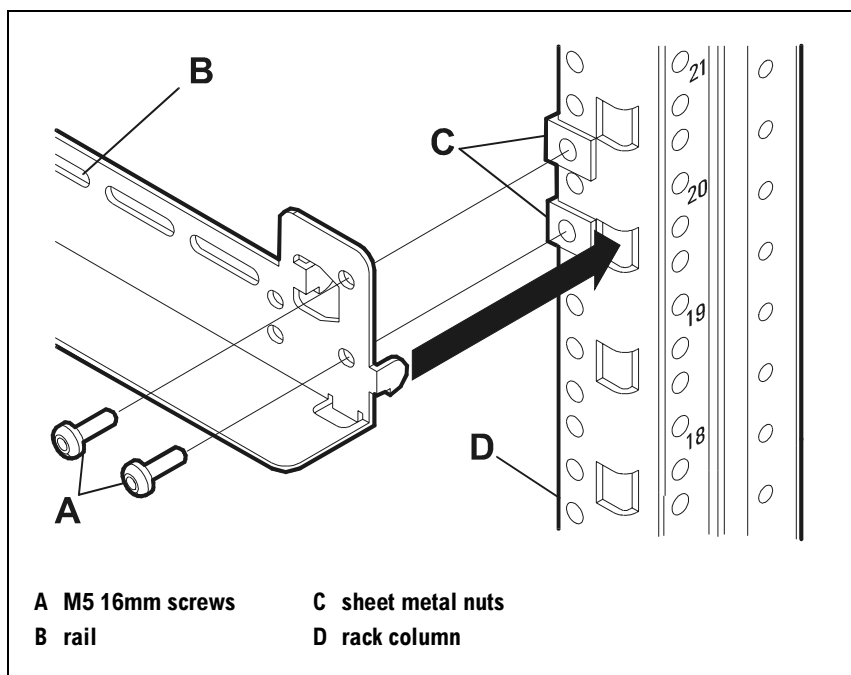

Figure 20 Rail Assembly – Rack Systems/E
- Install sheet metal nuts (C in Figure 20) at the rail location(s) on all four columns.
- Insert two screws (A in Figure 20) through each rail end and prepared rack column. Use a Torx T25 screwdriver to tighten the screws securely.